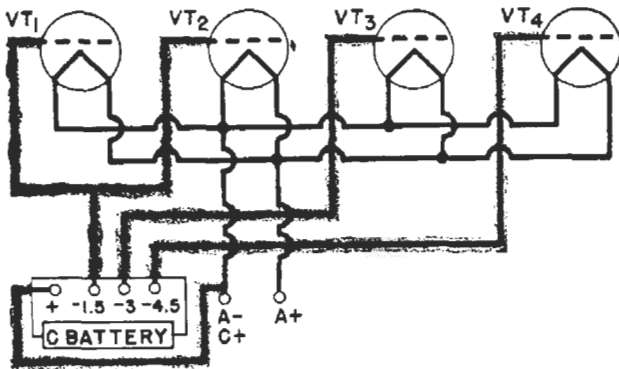

FIG. 24. Grid bias paths from a C battery.
**The C Battery.** A typical C battery arrangement for furnishing bias is shown in Fig. 24. This battery is made up of a series-connected group of 1.5-volt dry cells. It may have only two terminals, or it may have a number of taps to supply tubes needing different C bias voltages. Notice that  $C+$  connects to  $A-$ , so the bias is applied between the grids and the negative sides of their filaments. The grids of  $VT_1$  and  $VT_2$  are connected together and have a bias voltage of  $-1.5$  volts; the grid of tube  $VT_3$  is biased 3 volts negative, while  $-4.5$  volts is applied to the grid of tube  $VT_4$ .